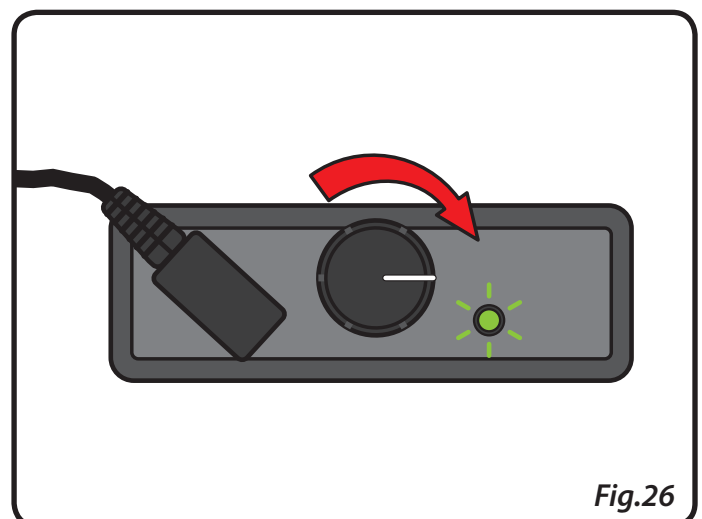

Fig.26
4. Slowly turn the volume control clockwise until you hear a 'click' and the green indication LED comes ON, as shown in Fig.26 (*the receiver's LED will stay illuminated while in the ON position. To maximize battery life it is recommended that the receiver is switched OFF when not in use*).